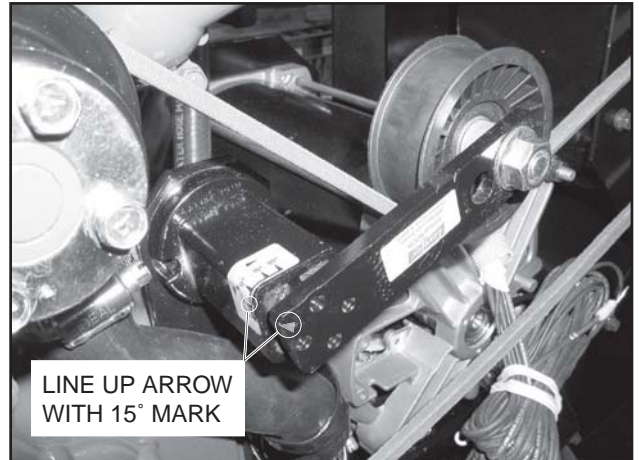

Figure 8-7. – Position of Fan Belt Tensioner
1. Install fan belt tensioner as shown in Figure 8-7. Snug mounting bolt but do not tighten.
3. Using a 36mm wrench or equivalent, apply tension to the belt (see Figure 8-9). Belt tension should be 15° (Figure 8-7). Once proper tension is achieved tighten hold down bolt to 49 ft-lbs using a 16mm socket.